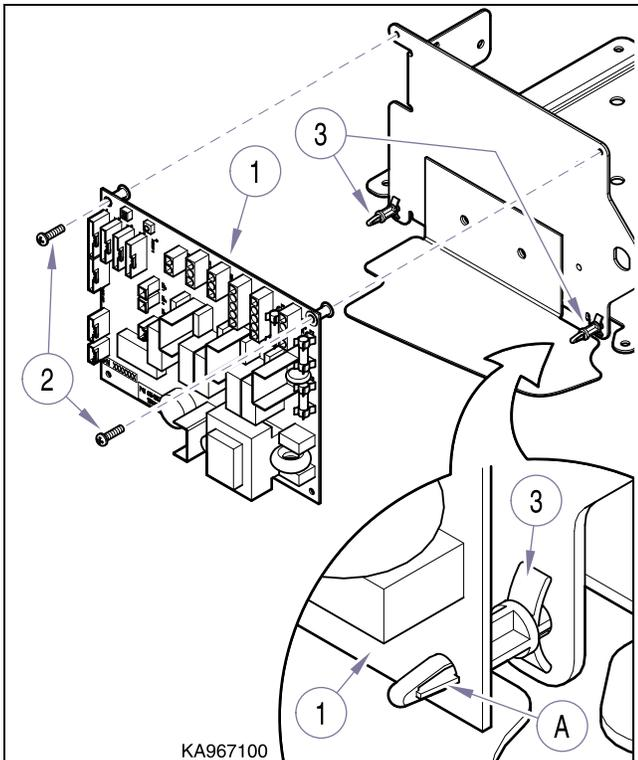

Figure 4-17. Printed Circuit Board.
- (1) Rotate seat toward patient's left side.
- (2) Unplug chair power cord.
- (3) Remove hydraulic cover (refer to para 4.3).
- (4) Tag then disconnect plug connectors from P.C. Board (1, Fig. 4-17).
- (1) Install p.c. board (1, Fig. 4-17) on lower mounts (3), pushing inward until it snaps in place.
- (2) Install top mounting screws (3).
- (3) Install plug connectors on p.c. board (refer to para 5.1 for connector layout).
- (4) Place both switches on SW1 to ON position, Plug in chair power cord, and run a Calibration Mode (refer to Section 5, SW1 Switch Settings).
- (5) After Calibration is completed unplug chair power cord. Place SW1 switches to previous settings. Plug in chair power cord, and run various functions to check operation.
- (6) Unplug chair and install cover, then plug chair back into outlet.